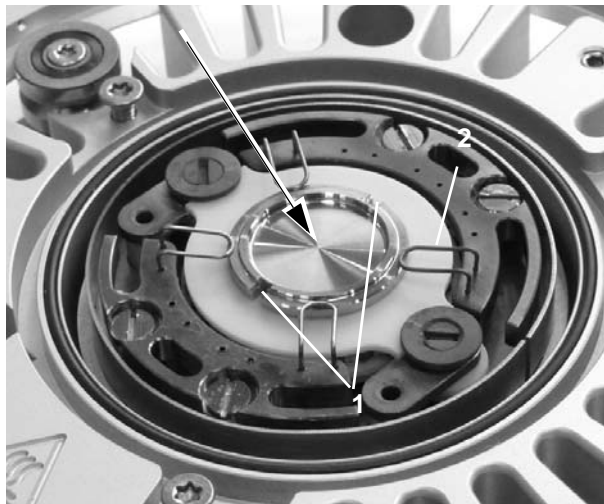
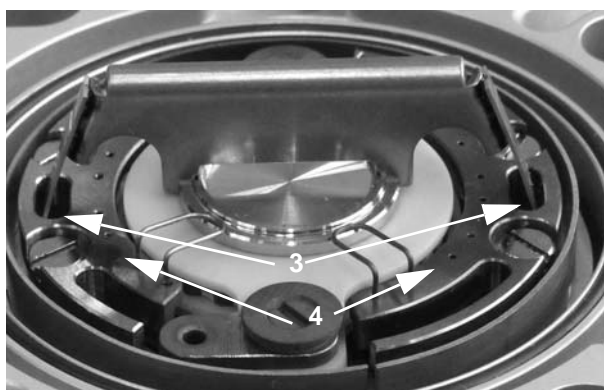

Fig. 7-1: Powder Sample Carrier (PSC)
Fig. 21: PSC with Anti-Scatter slit (ASS)
2. Fix the PSC with the short (5 mm) fixing springs (Fig. 7-1: 2) delivered with DHS 1100.
The Anti-Scatter slit has springs on either side (Fig. 21: 3) with which it is fixed in the segments (4) around the heater as shown in Fig. 21: . Grooves in the PSC (Fig. 7-1: 1) position the ASS on the PSC.